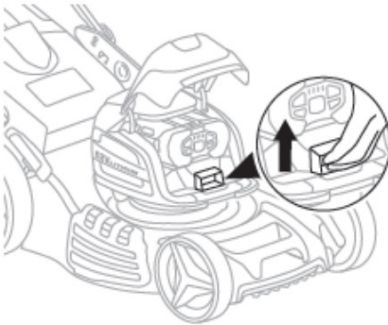

Fig.6A
- 2) Lift the battery release button. (Fig.6A)